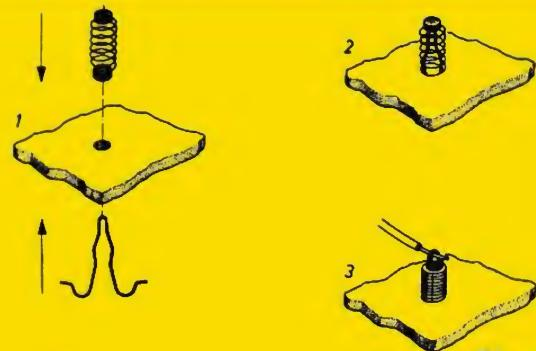

Fig. 1
Take the mounting plate (39) in front of you, with the tabs away from you. Take the circuit-card of the set you want to build and put it on the mounting plate as indicated, so that to the left one row of holes and below three rows of holes remain uncovered and the card number is legible from your side. Now the hairpin springs (20) are pushed through the holes at the connecting points in an upward direction (fig. 1). No spring must be placed in the circled, feed-through holes. Next put the mounting plate flat on the table and push the large coil springs (21) over the hairpin springs.